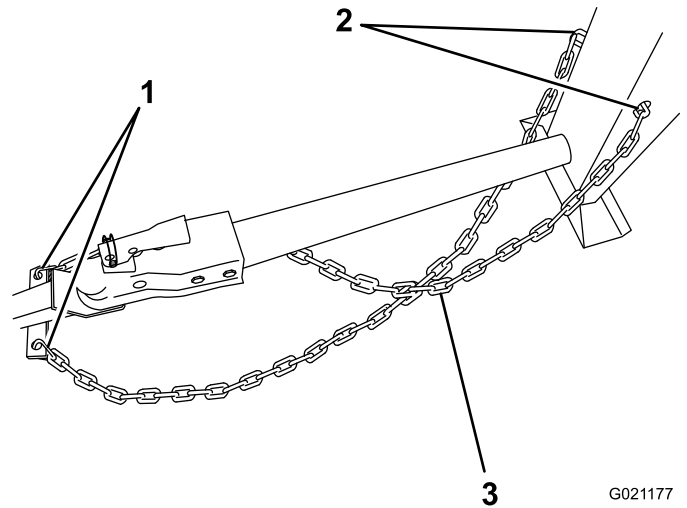

Figure 25
1. Pull the safety chain through the slots in the keyholes located in the front post of the machine, so that the lengths on each side are equal (Figure 25).